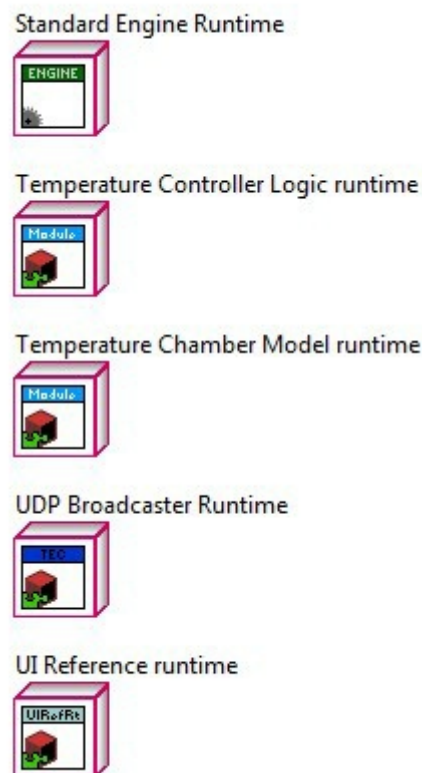

Figure 1.6
10. Verify that the corresponding classes have been added to **Host Module Includes.vi** and compare them to Figure 1.6: